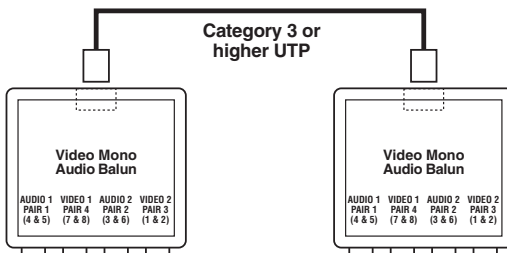

Figure 3-2. Two Baluns cabled together.
7. Plug the other end of each UTP cable into the appropriate video wall outlet or patch panel. When this is done, a complete cabling circuit should run between the two baluns, as shown in Figure 3-2 below.